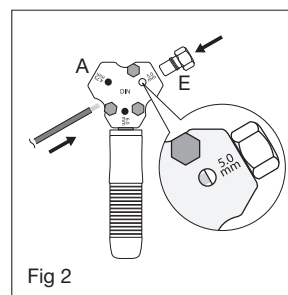

Fig 2
3. Refer to Figure 2: Fit the pipe stop plug (**E**) into the flare type being used and slide the prepared brake pipe into the tool until it stops against **E**.